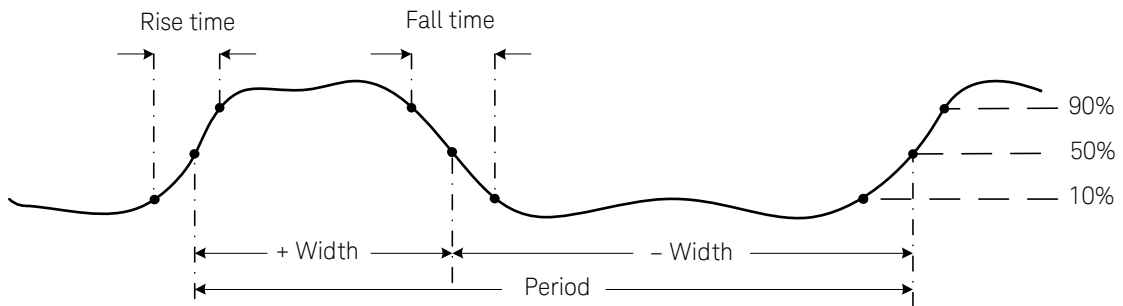

Figure 2-17 Frequency measurement
- Frequency is the number of cycles a signal completes each second. Frequency is defined as $1/\text{Period}$. Period is defined as the time between the middle threshold crossings of two consecutive, like-polarity edges, as shown in **Figure 2-17**.